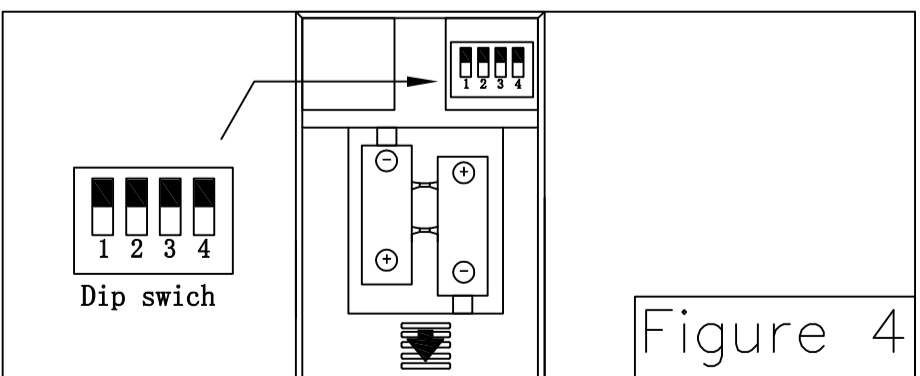

Figure 4
- After connections have been made, turn leads upward and carefully push leads into the outlet box, with the white and green leads to one side of the box and the black leads to the other side. (Figure 4)
□ To set the remote code same positions as the receiver with a small screwdriver or ball point pen (neither included) ,slide dip switches firmly up or down. (Figure 4)